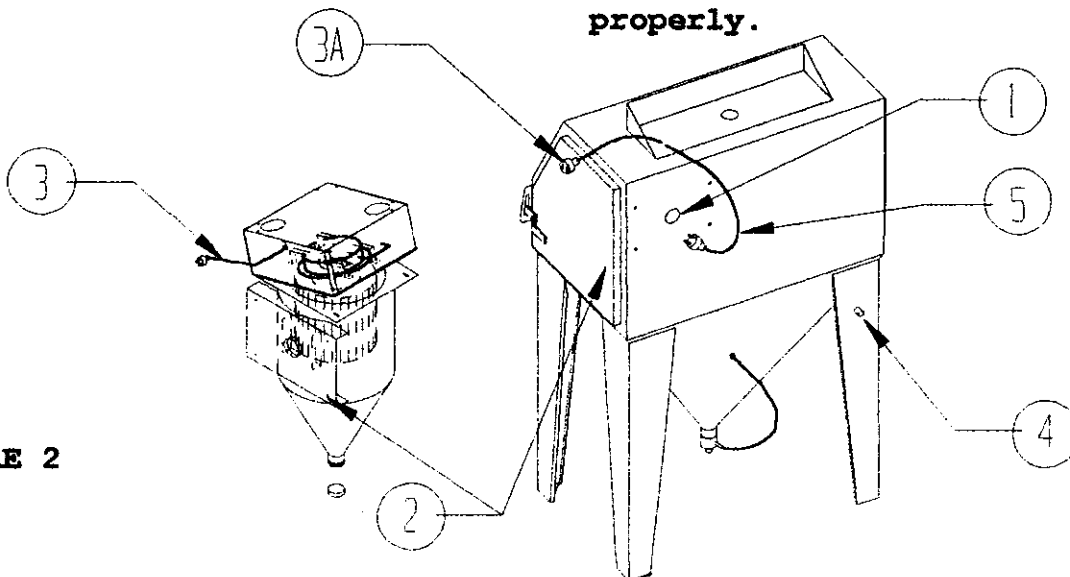

FIGURE 2
3. Installing Cartridge Dust Collector: (Refer To FIGURE 2) Packaged inside machine are bolts, washers, nuts and putty tape.